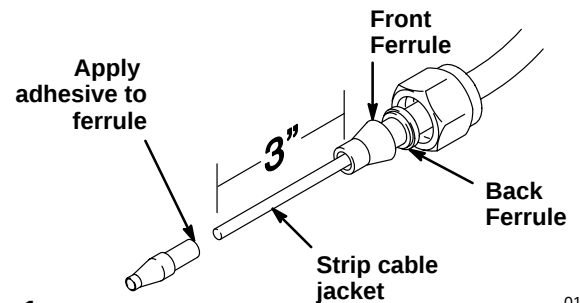

Fig 1 01013
2. Strip the cable jacket back about 3 inches (76.2 mm) at each end of the cable. See Fig 1.